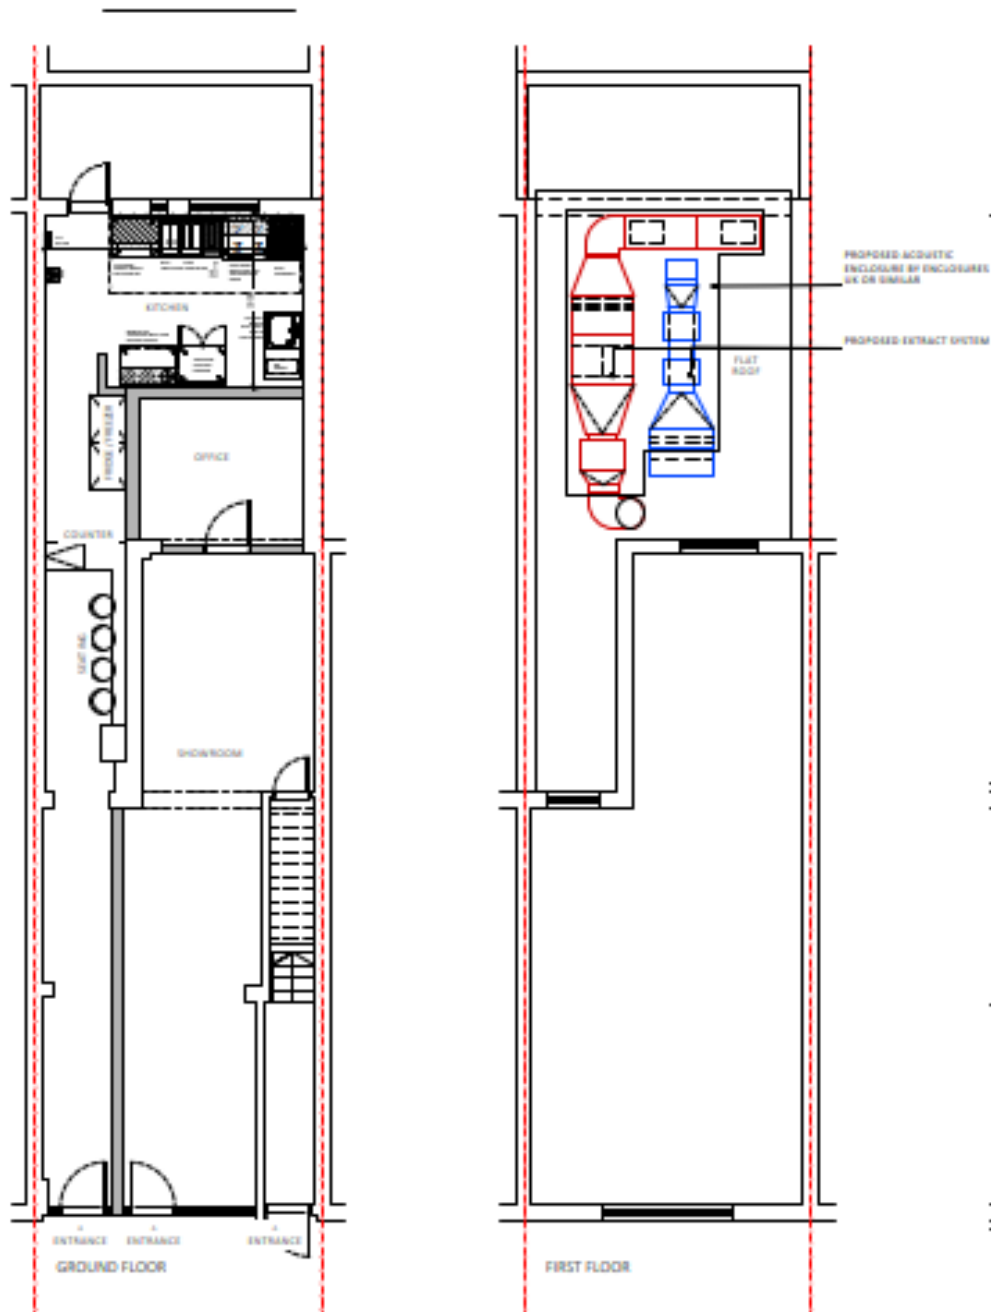

Figure 2: Kitchen Extraction Exhaust
3. The proposed equipment includes a kitchen extract system comprising of a wall type canopy extracting through a pre filter and carbon filter system before the extract fan discharging at 1m above roof ridge at the " Kitchen Extraction Exhaust" shown in figure 2.